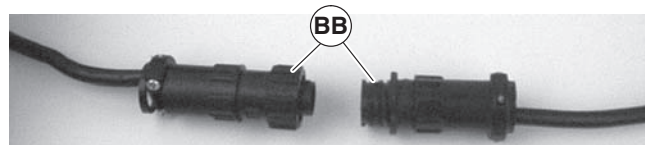

Figure 32
3. For DC variable speed motor, unplug motor cord at disconnect (Figure 32, item BB).